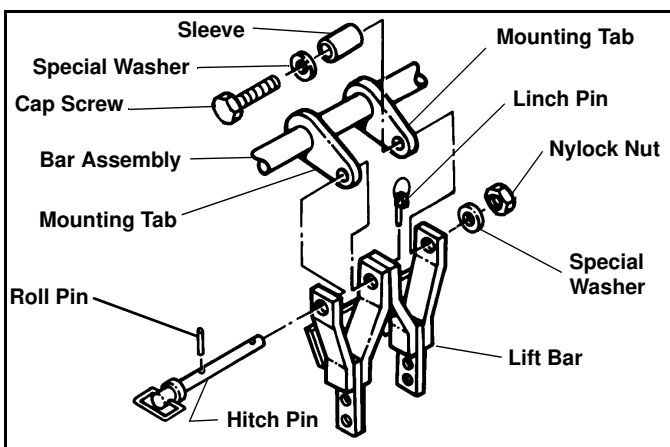

Figure 4
5. Remove Linch Pin, Roll Pin, and Hitch Pin located on Lift Bar. Remove Hitch Pin from Lift bar. (See Figure 4)
6. Align 3/4" hole in mounting tab, on Lower Bar Assembly Cross Tube, with matching hole in lift arm. Insert Hitch Pin in aligned holes and replace Roll Pin and Linch Pin. (See Figure 4)
7. Align 3/4" hole in mounting tab, on Lower Bar Assembly Cross Tube, with matching hole in Lift Bar and insert Sleeve (#24) secure with 1/2" x 2" Cap Screw (#25), two Special Washers (#27), and Nylock Nut provided. Tighten to 75 Ft. Lbs. (See Figure 4)